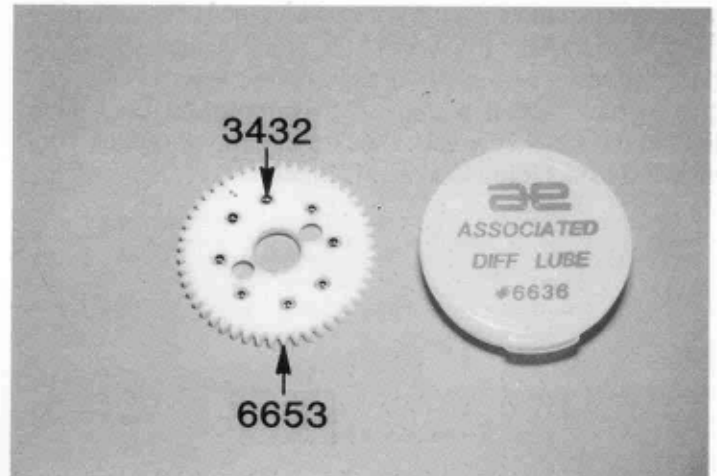

Fig. 43
□ **Fig. 43**— From Bag #7, remove the #6653 plastic spur gear and eight of the #3432 differential balls and push them into the gear. Now place a small dab of lube on each ball from the Associated diff lube #6636. USE THIS DIFF LUBE ONLY. NEVER USE ANY OTHER. THERE IS NONE BETTER. Other types of lubes will only make the differential slip.